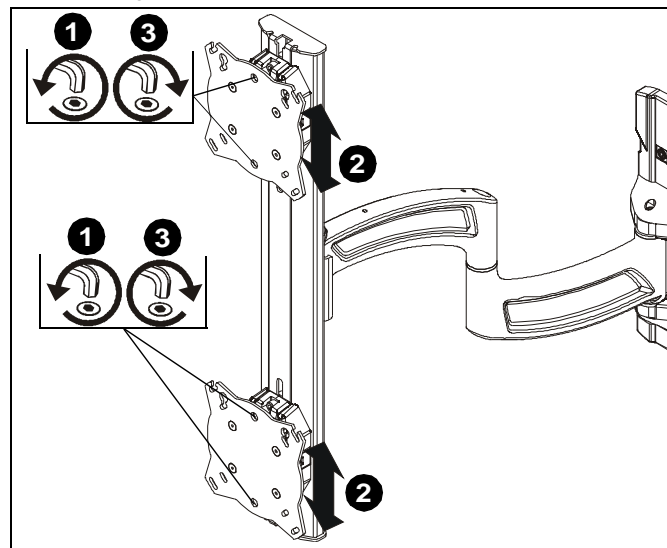

Figure 22
1. Loosen height adjustment screws for specific display that will be adjusted. (See Figure 22)
2. Adjust display to desired height. (See Figure 22)
3. Tighten height adjustment screws to lock display's position. (See Figure 22)